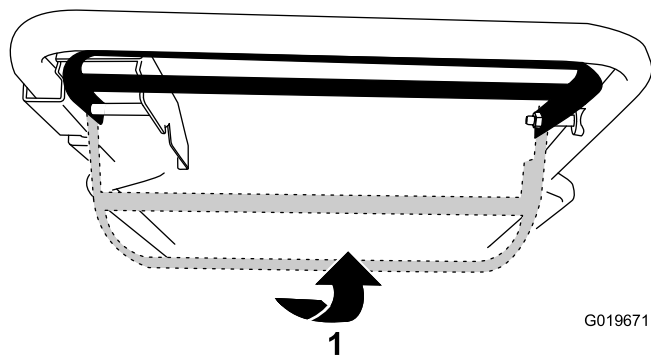

Figure 17
- **To operate the self-propel drive without engaging the blade:** Raise the blade-control bar to the handle (Figure 17).